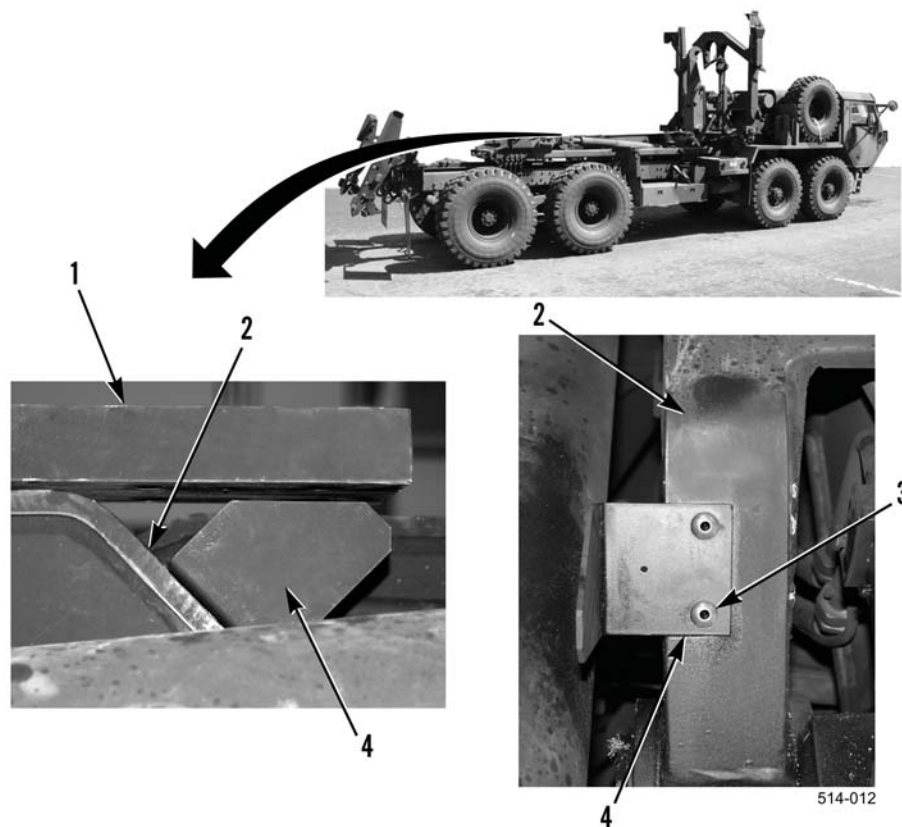

Figure 49. Hook Arm Sensor Plate Installation.
6. Place switch plate (Figure 49, Item 4) 1 1/4 in. from edge and mark pilot holes. Drill two 1/4 in. holes in hook arm (Figure 49, Item 2).
7. Install switch plate (Figure 49, Item 4) and two rivets (Figure 49, Item 3) on hook arm (Figure 49, Item 2).